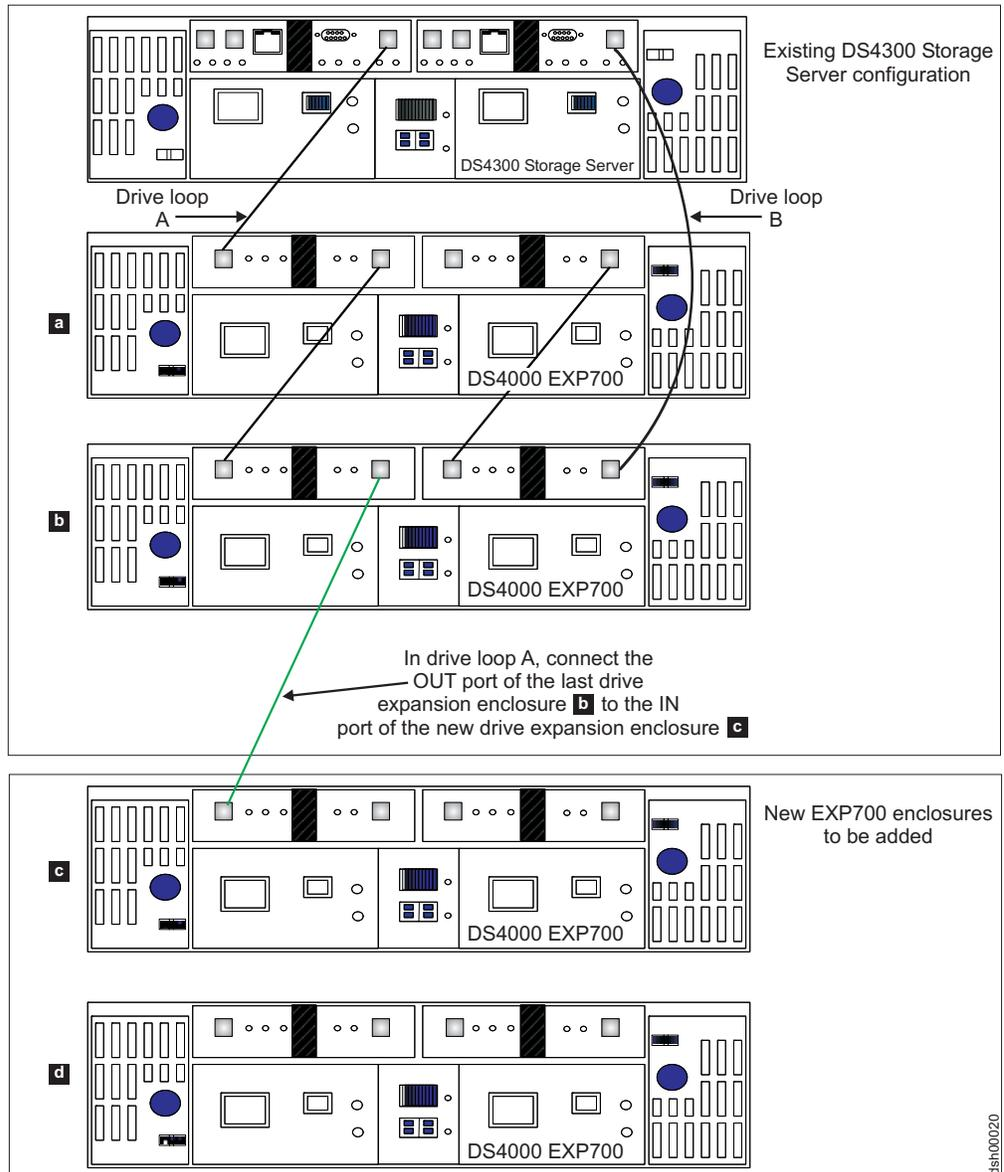
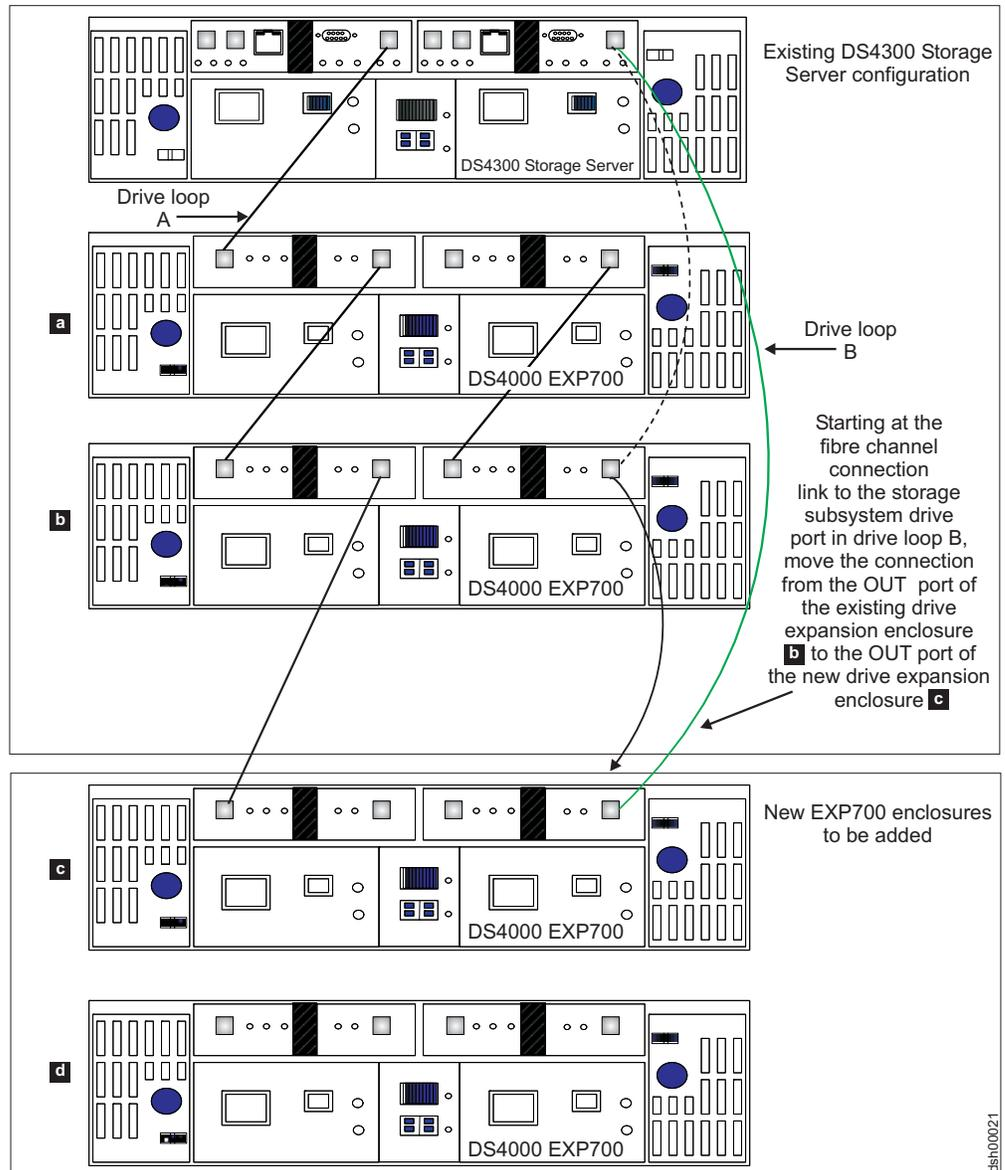
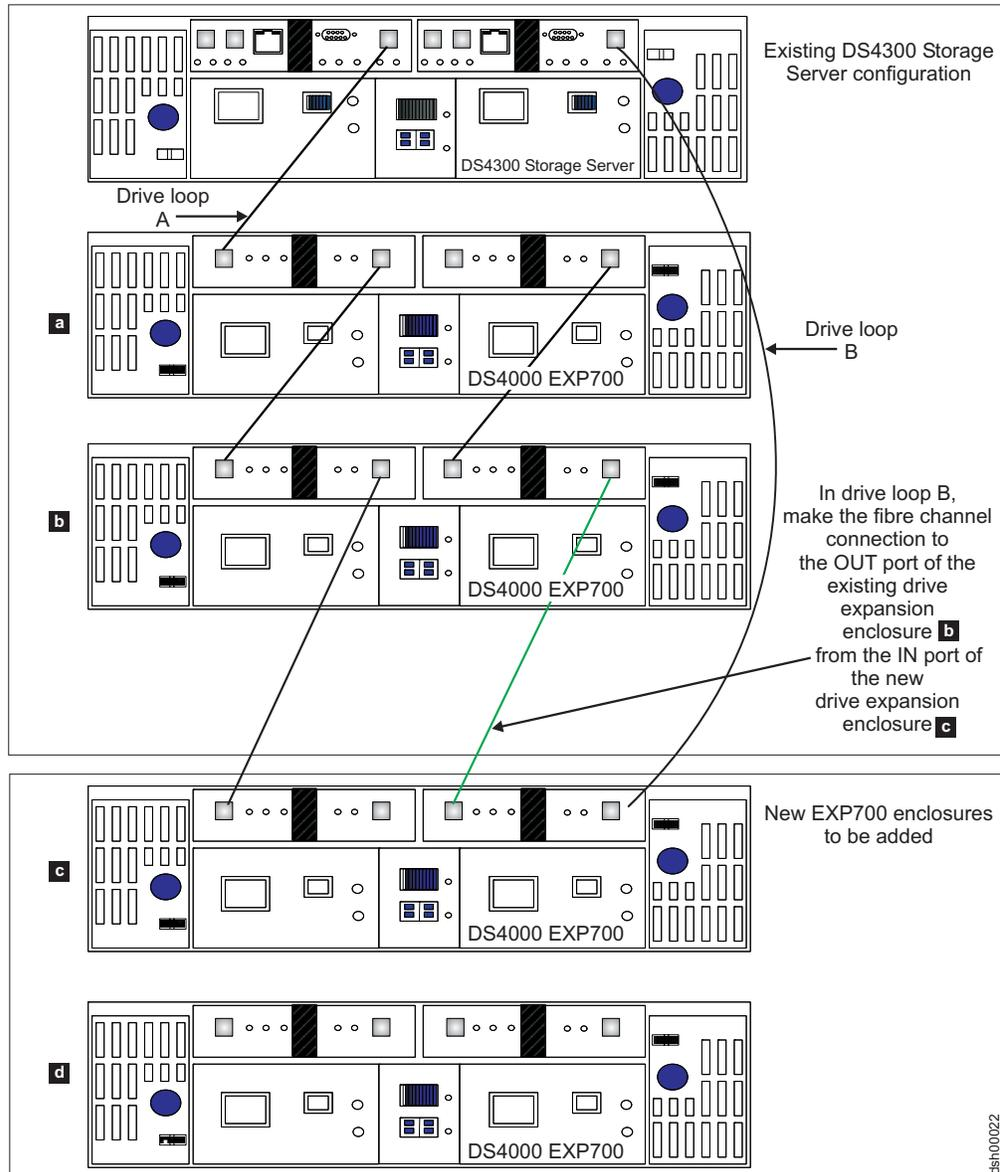

Figure 22. Cabling a single drive enclosure to the end of a functioning drive loop (step 1 of 3)
Figure 23. Cabling a single drive enclosure to the end of a functioning drive loop (step 2 of 3)
Figure 24. Cabling a single drive enclosure to the end of a functioning drive loop (step 3 of 3)
The cabling instructions illustrated in Figure 22 on page 64, Figure 23 on page 65, and Figure 24 on page 66 describe cabling a DS4000 EXP700 Storage Expansion Enclosure to the end (bottom) of a redundant drive loop of a functioning DS4300 Storage Subsystem (model 60X or 60U). IBM recommends that you add storage expansion enclosures to an existing drive loops only in this manner. See “DS4000 Storage Subsystem drive loop schemes” on page 22.
- ___ Step 2. Extend one of the drive loops (that is, drive loop A) in a DS4000 Storage Subsystem redundant drive loop pair by connecting the OUT port of the last storage expansion enclosure to the IN port of the new storage expansion enclosure as shown in Figure 22 on page 64.
- ___ Step 5. In the other drive loop (that is, drive loop B) in a DS4000 Storage Subsystem redundant drive loop pair, remove the connection from the DS4000 Storage Subsystem drive loop port to the OUT port of the last storage expansion enclosure and connect it to the OUT port of the new drive enclosure as shown in Figure 23 on page 65.
- ___ Step 7. In drive loop B, cable the new drive enclosure's IN port to the OUT port of the last enclosure in the already functioning storage expansion enclosure drive loop as shown in Figure 24 on page 66.